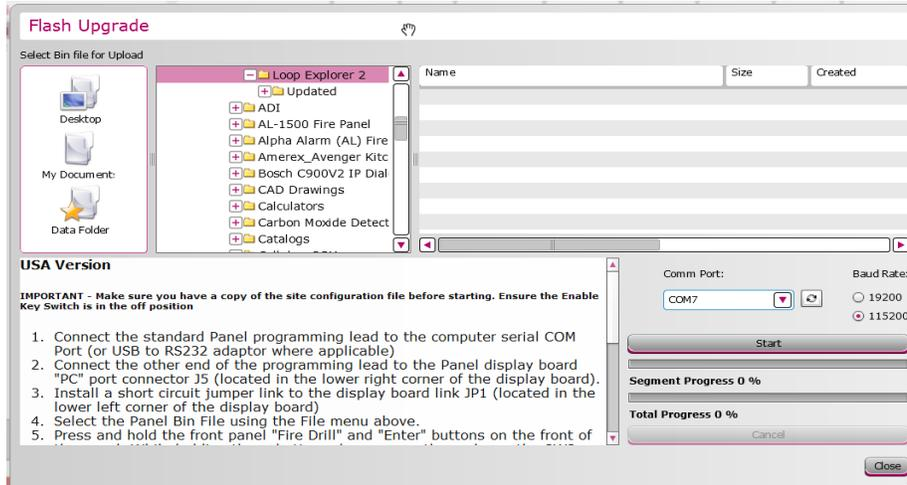

Figure 1.3
3.1 Select the 'Tools' tab. From the 'Tools' ribbon, Press the 'Update Panel Firmware' button. The Flash Upgrade window will display. (see Figure 1.3)